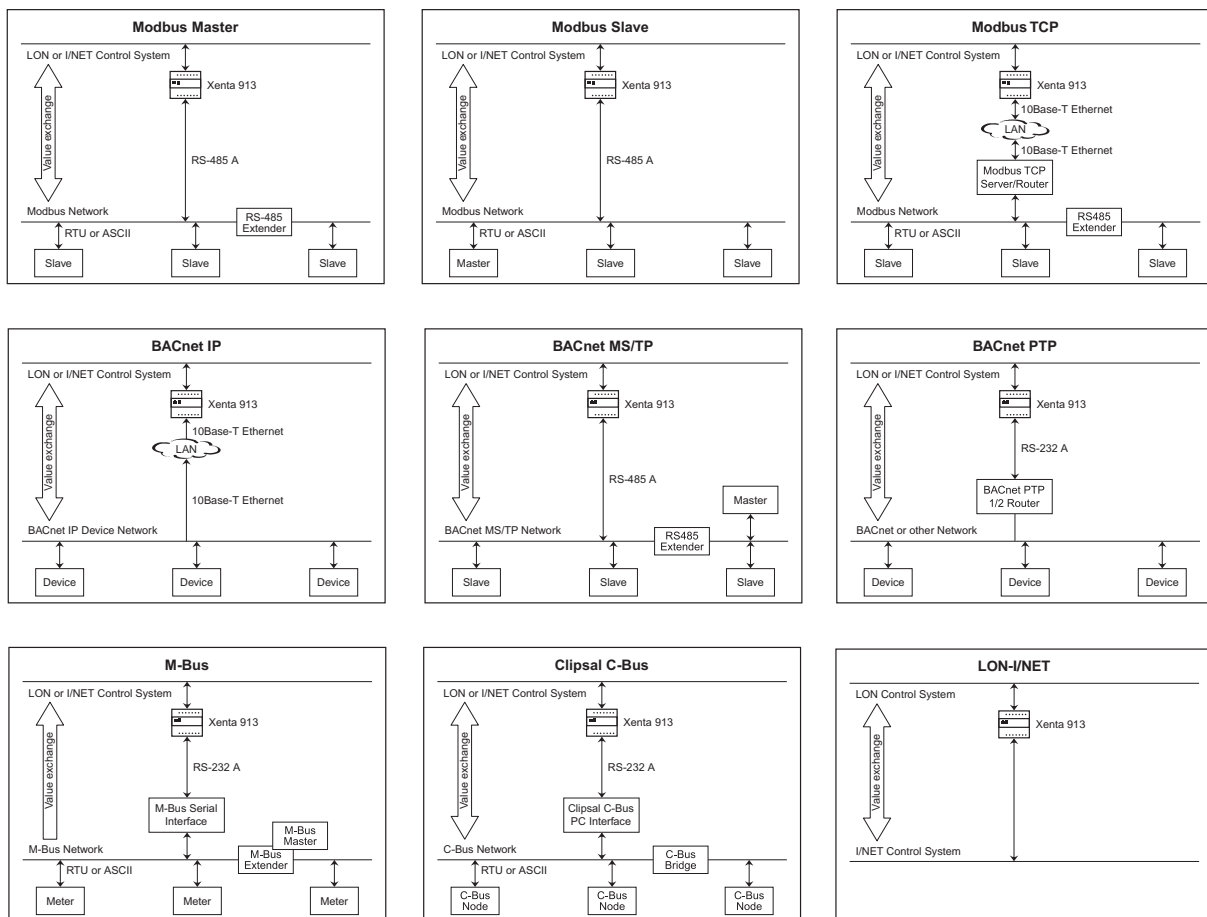

Fig. 2.1: Overview of the available target networks.
The available types of target networks are outlined in Fig. 2.1.
The protocols used for the networks in Fig. 2.1 are described in detail in Appendix B, “Protocols”, on page 117.
- In addition to the networks described in Fig. 2.1, other combinations are possible. For example, you can have a LonWorks network, a Modbus master and a Modbus TCP client connected to the Xenta 913 at the same time.